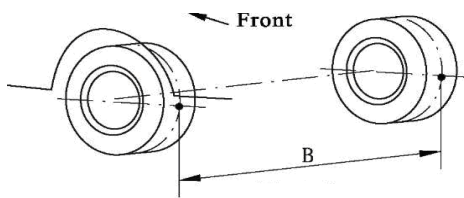

Figure 1
- 1)Straighten the front wheel of the vehicle, mark the front and rear center points of the tire, and measure the distance between the left and right tire marks” B”. As shown in figure 1.